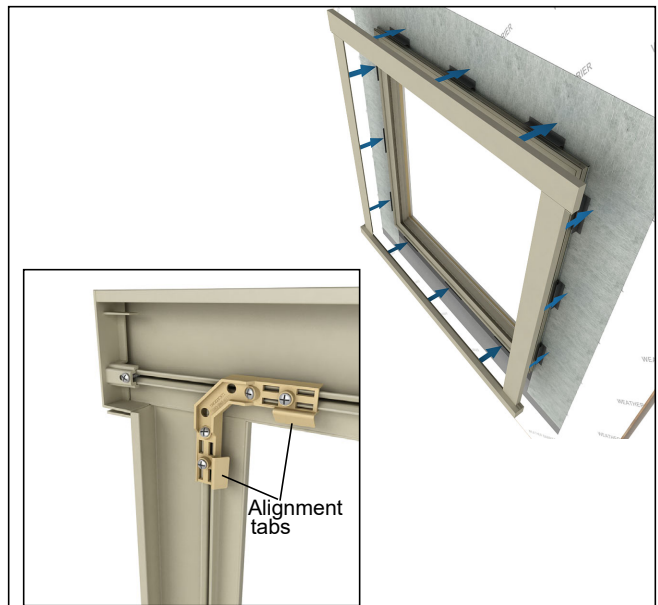

Figure 48
6. Press casing assembly onto connection bars by lining up all corners with the corner key alignment tabs. Press firmly (20-40 pounds of pressure) around the entire casing assembly until it is seated fully over frame. **Do not use excessive force, mallets, hammers, etc.** See *figure 48*.